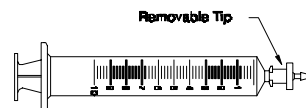

Figure 4: Syringe
**Syringe:** Figure 4. Provides method for injection of water into sensing plugs ends.